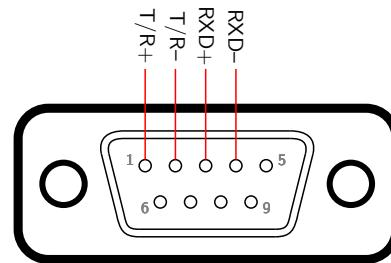

Figure 4.3: DB-9 female connector (solder side).²
1. Solder the pins on the female DB-9 connector as shown in Figure 4.3. Note that the pin numbers shown in the diagram are for the solder side of the connector.